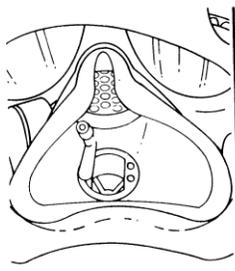

Figure 3a
- (1) Prior to using the drinking system, use M8 chemical agent detector paper to check for contamination. If contamination is detected, decontaminate the drinking tube and the M1 canteen cap with the M258A1 decontamination kit. After decontamination, recheck the surfaces with M8 chemical agent detector paper.
- (2) By pressing in on the top of the outlet valve, the internal drinking tube can be grasped between your teeth (See fig. 3a)